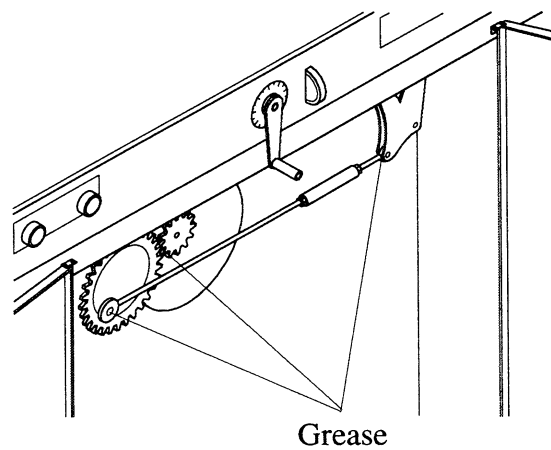

Fig. 6-2
- Apply grease once a month on sliding and rotating parts of driving unit. (*Fig. 6-2*)